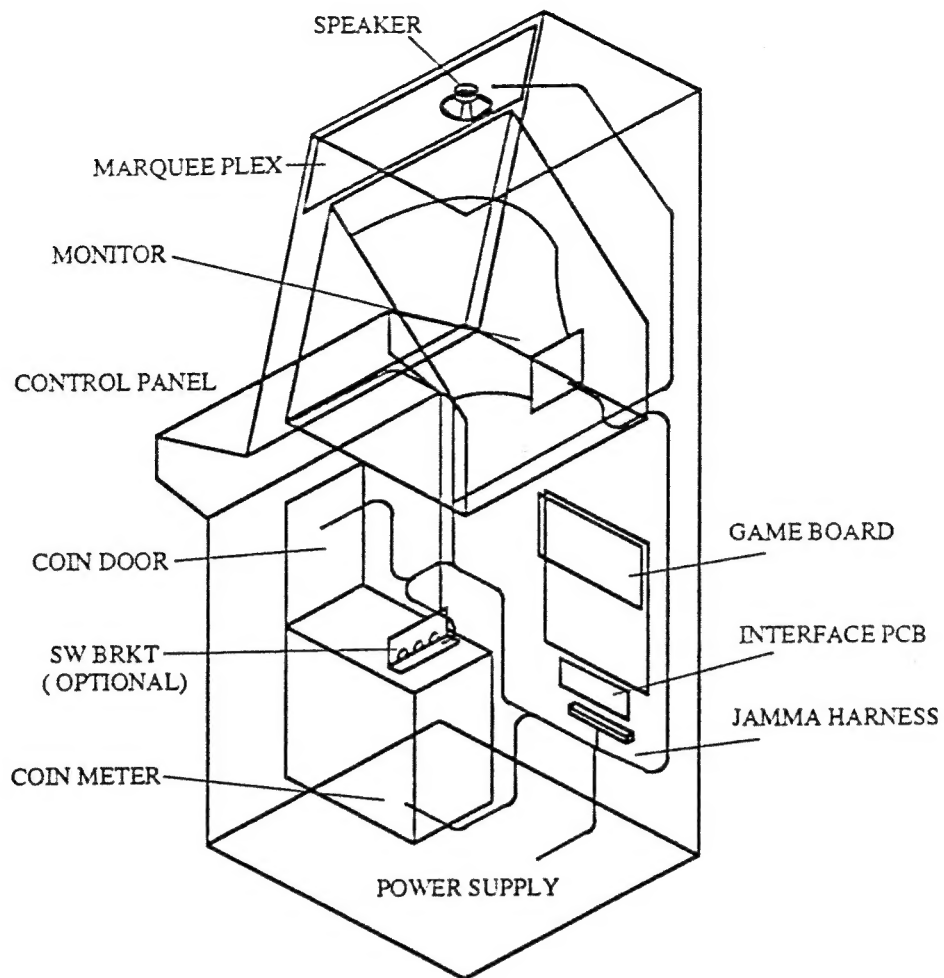

FIGURE 5
22. Install the logic PCB and interface PCB inside the cabinet (see figure 5). Use wood screws to secure the PCB through its' mounting feet.